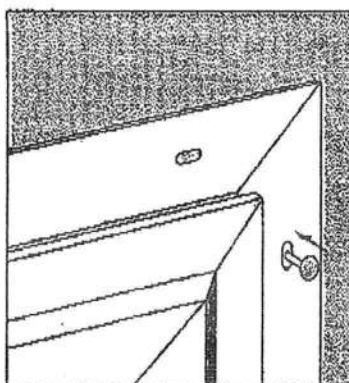

Figure 4
6. Secure the unit by loosely nailing through the center of a nail slot at the top of one of the jambs using a galvanized roofing nail or a #8 pan head corrosion resistant screw. (See Figure 4)